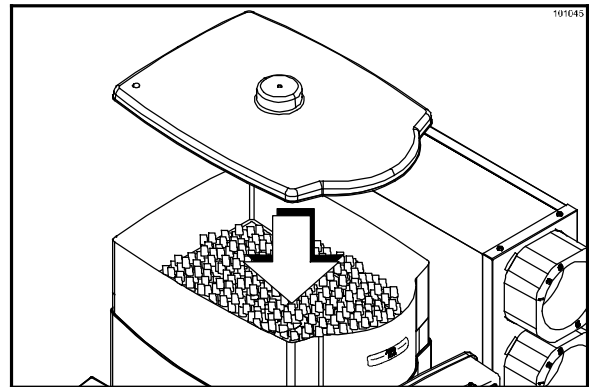

Figure 10
5. Reinstall the ice hopper cover. (See Figure 10.)